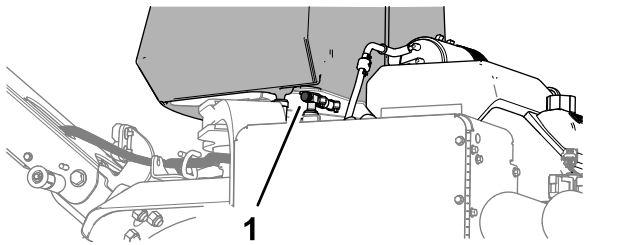

Figure 72
5. If you are hauling or storing the machine, close the fuel-shutoff valve (Figure 72).